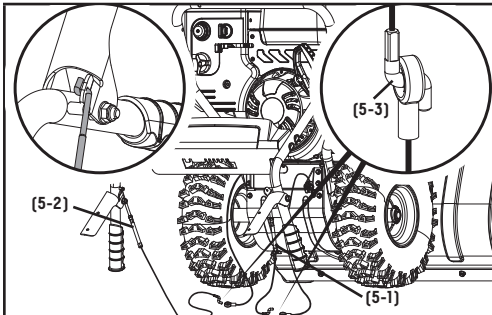

Figure 5
3. Insert wire clamps (5-3) together and pull to make sure they are connected. (Fig. 5).